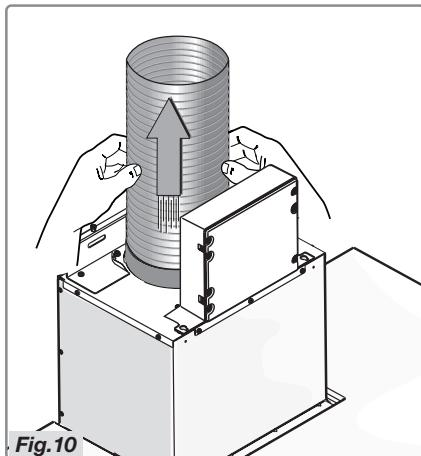

Fig.10
- Connect the flange to the air outlet using a tube (Fig.10).